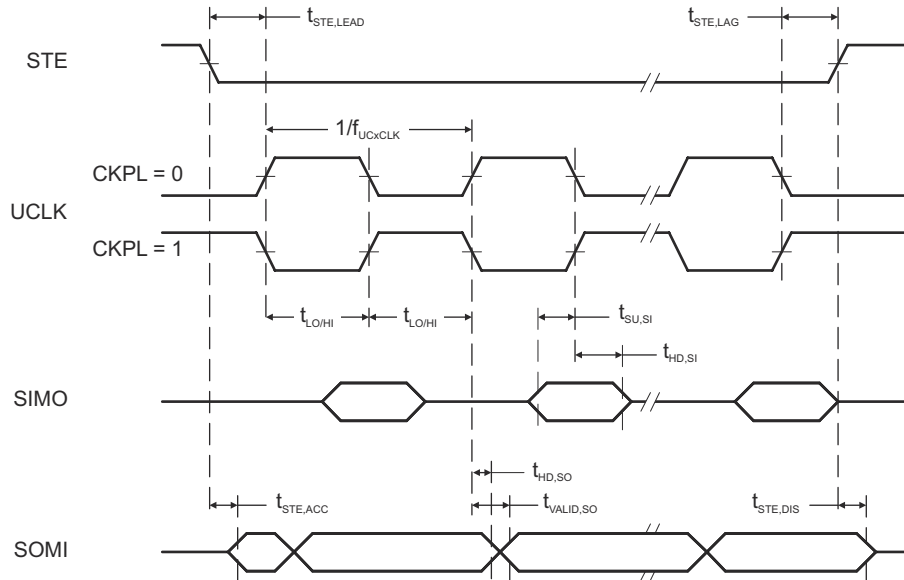
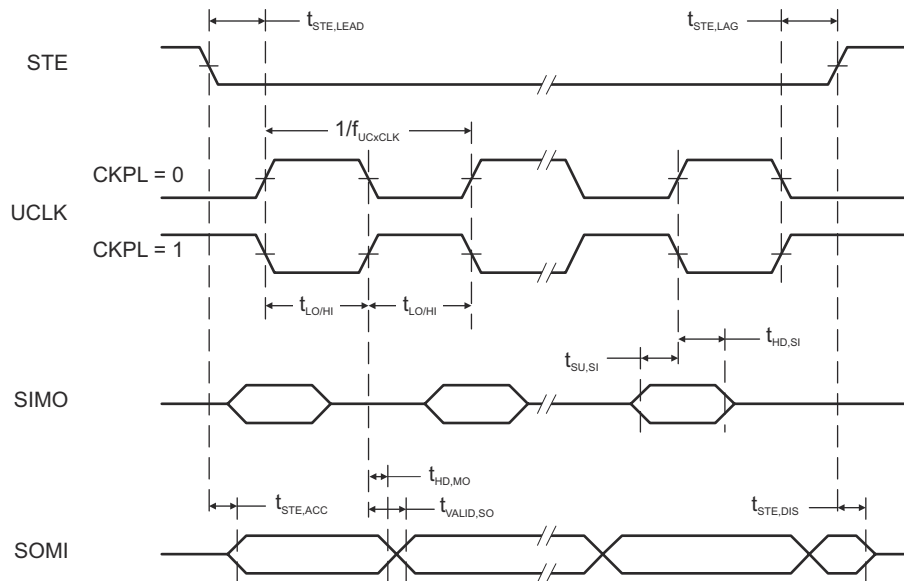

Figure 8-13. SPI Slave Mode, CKPH = 0
Figure 8-14. SPI Slave Mode, CKPH = 1
(see Figure 8-13 and Figure 8-14)
(2) Specifies the time to drive the next valid data to the SOMI output after the output changing UCLK clock edge. See the timing diagrams in Figure 8-13 and Figure 8-14.
(3) Specifies how long data on the SOMI output is valid after the output changing UCLK clock edge. See the timing diagrams in Figure 8-13 and Figure 8-14.